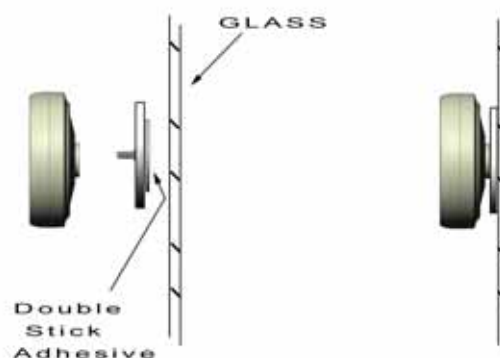

Figure 5
- 1a. For temporary mounting, use double-stick tape included with the plastic disk and press the disk firmly to the clean and dry surface. (figure 5)